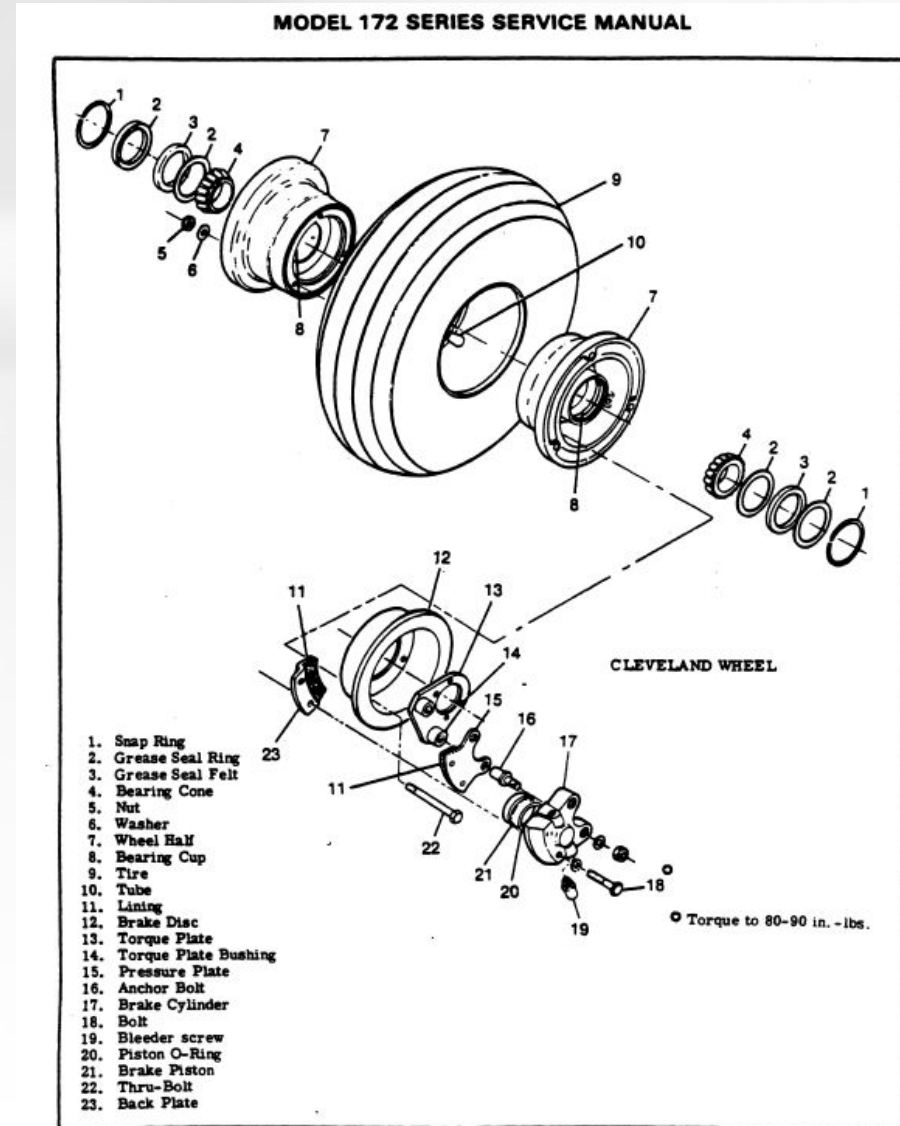

Figure 5-3. Main Wheel and Brake (Sheet 2 of 3)
5-18. **DISASSEMBLY.** (Cleveland Wheel.) (See figure 5-3, Sheet 2 of 3.)
- 5-19. MAIN WHEEL INSPECTION AND REPAIR. (Cleveland Wheel.) (See figure 5-3, Sheet 2 of 3.)**
- 5-20. MAIN WHEEL REASSEMBLY. (Cleveland Wheel.) (See figure 5-3, Sheet 2 of 3.)